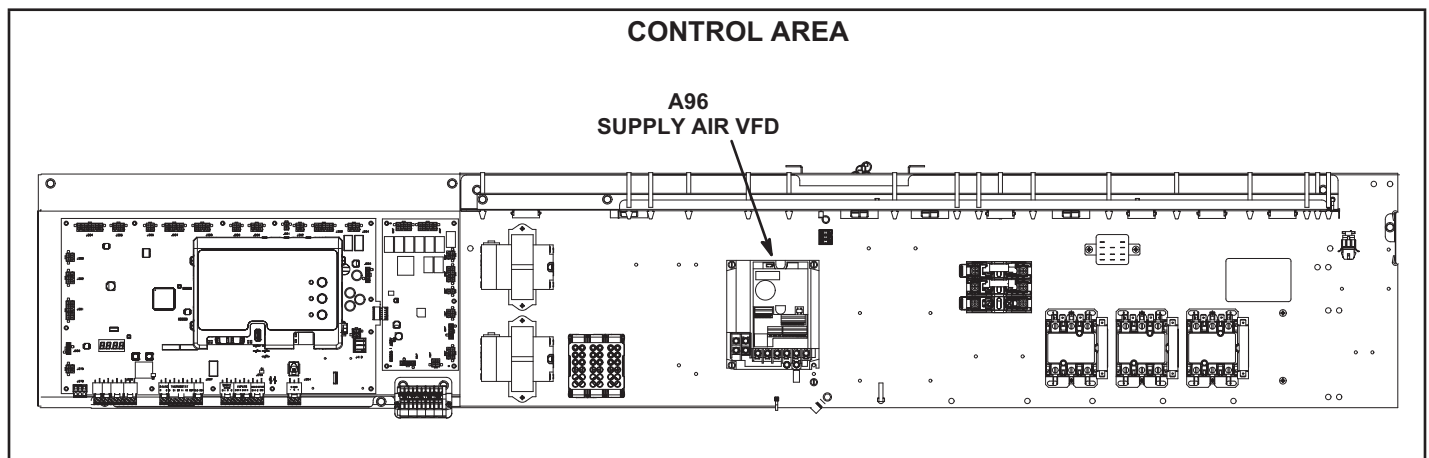

FIGURE 39
Units contain a supply air blower equipped with a variable frequency drive A96 (VFD) which varies supply air CFM. The supply air VFD (A96) is located in the control area. See FIGURE 39.
- 4 - Locate the A55 Unit Controller. Refer to FIGURE 39.